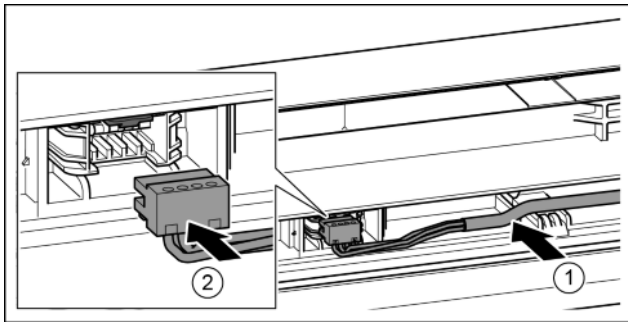

Fig. 37
- ▶ Insert the grey cable into the guide in the top door. Fig. 37 (1)
- ▶ Insert connector. Fig. 37 (2)